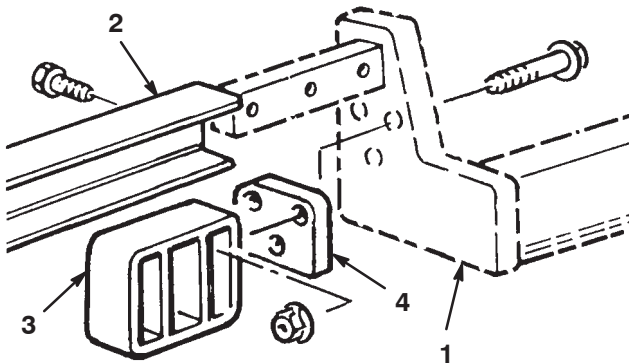

Figure 5
- Mount a rear cradle to each lift arm with 3 capscrews (3/8 x 2 in.), spacers, and flange nuts as shown in Figure 5.